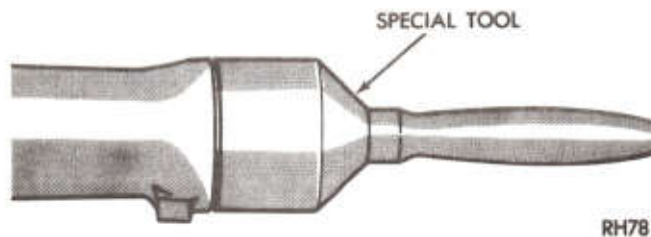

Fig. 6—Install Extension Seal
(3) To install a new seal, position seal in opening of extension housing and drive it into the housing with Tool C-3995 or C-3972 (Fig. 6).
(4) Carefully guide front universal joint yoke into extension housing and on the mainshaft splines. Align marks made at removal and connect propeller shaft to rear axle pinion shaft yoke.
(4) **A-904T and A-999:** Drive a new oil seal into housing with Tool C-3995 (Fig. 6).